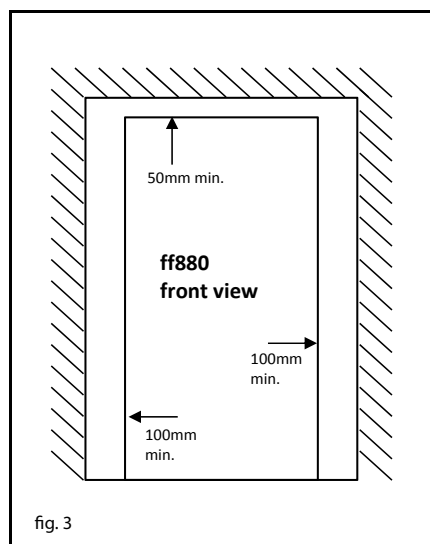

fig. 3
- Ensure that a gap of no less than 50mm is left above the appliance and that the gap around the outside is no less than 100mm to allow the door to open fully (fig. 3).